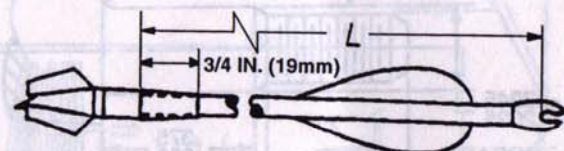

FIG 3. Arrow Assembly Incorporating an Outsert.
3. For arrows incorporating outserts, the designated point is 3/4 in. (19mm) forward of the rearward end of the outsert (Fig 3, p.13).